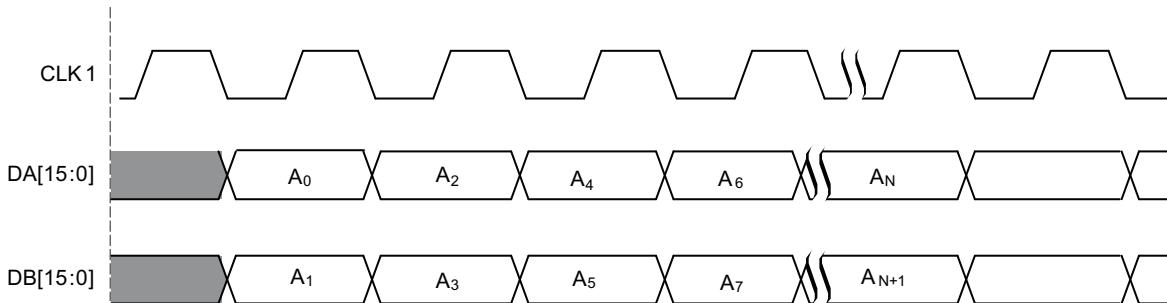

Figure 38. HALF RATE BUS MODE (PLL Clock Mode)
In HALF RATE BUS MODE, the user inputs data on both DA[15:0] and DB[15:0] ports at half rate and input logic merges both data streams into one DAC channel (A). This mode is selected by setting CONFIG1 **insel\_mode[15:0]** = '11'. Refer to Figure 38.